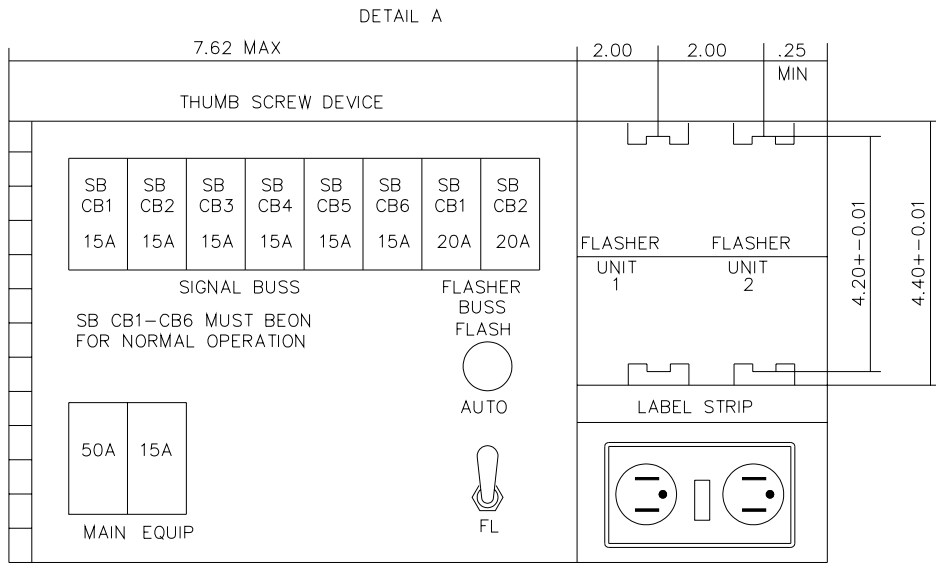

Figure 678-12: POWER DISTRIBUTION ASSEMBLY #2 FRONT PANEL DETAILS
- (a) The physical details of PDA #2 are shown in Figure 678-10. The front panel details of PDA #2 are shown in Figure 678-11 which is Detail A of Figure 678-10. The mounting details of the connector/stud are shown in Figure 678-12 which is Detail B of Figure 678-10.